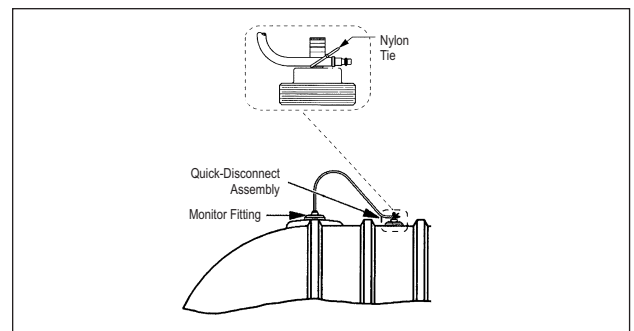

FIGURE 3-4
3.3.1.1. The tank will arrive with a quick-disconnect assembly. (See FIGURE 3-4.)
3.3.1.2. If the tank is not configured as shown in FIGURE 3-4 prior to preinstallation testing, call the UST coordinator at the Xerxes plant nearest you.
3.3.2.3. Install the test manifold in the open service fitting. Connect the pressure source to the test manifold. (See FIGURE 3-4.)